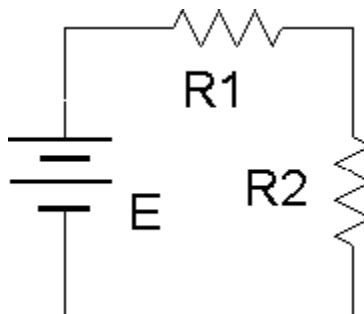

Figure 2
6. Build the circuit of Figure 2 using  $E=10\text{ V}$ ,  $R_1=10\text{ k}\Omega$  and  $R_2=33\text{ k}\Omega$ . Connect a probe from the channel one input to the power supply (red or tip to plus, black clip to ground). Connect a second probe from channel two to  $R_2$  (again, red or tip to the high side of the resistor and the black clip to ground).